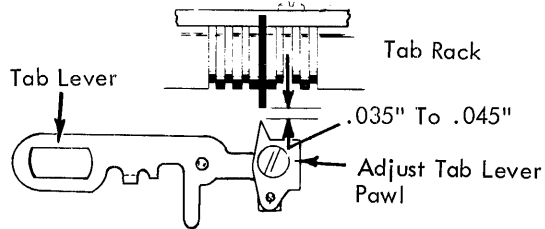

FIGURE 240. Tab Lever Pawl
2. Tab Lever Pawl - Adjust the pawl forward or back on the tab lever so that the tip of the pawl clears a SET tab stop by .035" to .045" with the tab lever at rest (Fig. 240).